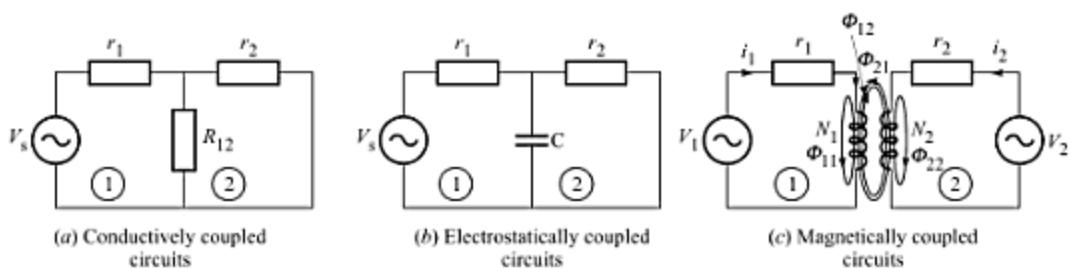

Fig. 7.2 Mutual coupling between two circuits.
When interchange of energy takes place between two circuits, we say that the two circuits are *mutually coupled*. As illustrated in Fig. 7.2, there can be three ways of coupling two circuits: (a) conductive, (b) electrostatic, and (c) electromagnetic. In Fig. 7.2a, resistor  $R_{12}$  is the mutual resistance between circuit ① and circuit ②. In Fig. 7.2b, the two circuits are coupled electrostatically through the mutual capacitor  $C$ .